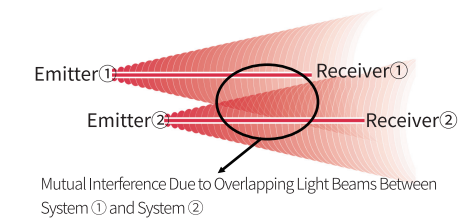

Fig. 8-5: Schematic Diagram for Avoiding Mutual Interference Between System ① and System ②
When two or more sets of grating devices are installed adjacent to each other, mutual interference between the grating devices is likely to occur. As shown in Figure 8-5, the infrared light emitted by the Emitter unit of System ① may affect the receiver unit of System ②, which could interfere with the protective function of System ②. This means that the operator is at risk, so installation should be carried out with reference to Figure 8-6. That is, without a light-blocking partition, adjacent gratings should not be installed on the same side. Otherwise, the light emitted from the Emitter may easily reach the receiver of the adjacent system.